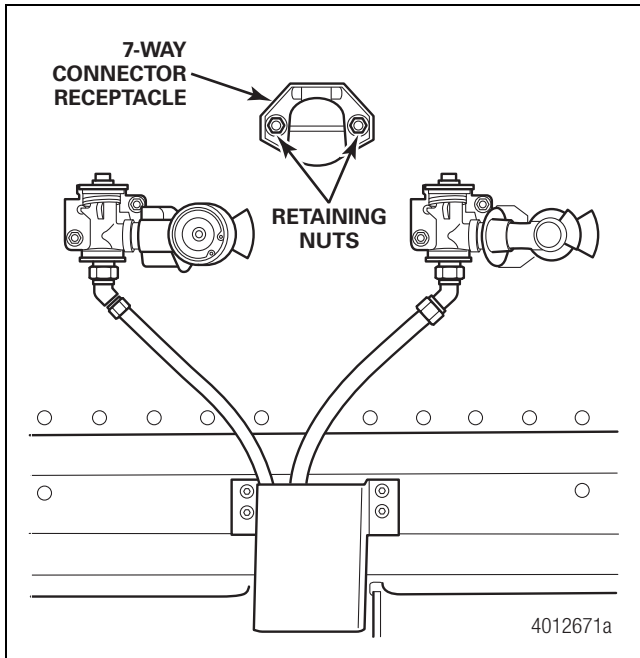

Figure 3
1. Use a 1/2" socket or wrench to remove the two retaining nuts from the 7-way connector receptacle. Figure 3.
10. Install the two retaining nuts. Figure 3.